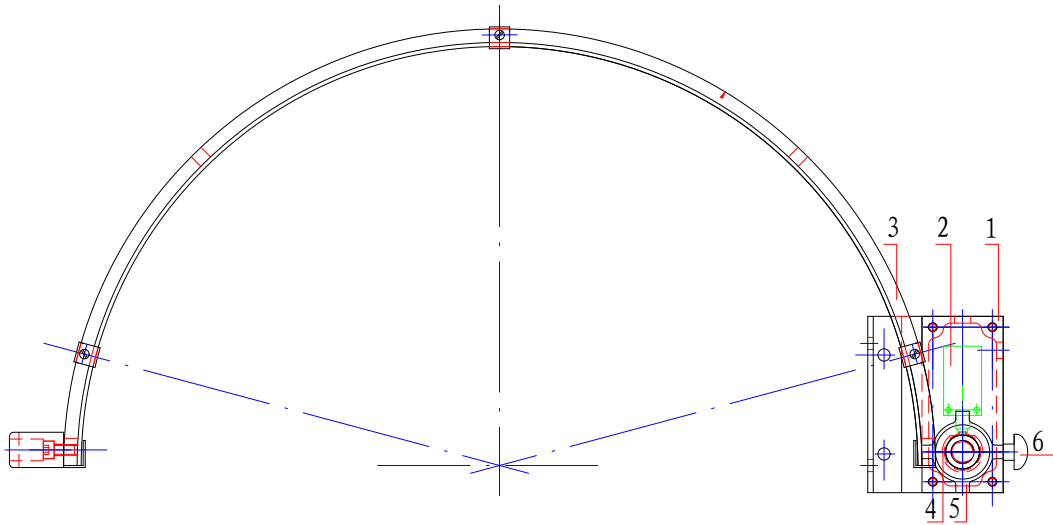

Fig. 26 Protection cover of chuck
The protecting cover seat is provided with limit position screw. After screw up the end and insert it into the limit position slot of the hollow shaft, at the same time, the chuck cover can move in the position fell down and the lifted up the position of lightly more than  $90^{\circ}$ . The horizontal position of the chuck cover is a working position. When this position is reached, screw it up with the handle (6) to make it to fixed without rotating. The positions of two ends of lifting up and lying down of the chuck cover are by their own weight balanced (see Fig. 26).
- The headstock and the feed box adopt the external centralized pressure lubricating system. The oil tank (lubricating point (2) in Fig. 26) in the bed leg and that in the apron (lubricating point (4) in Fig. 26) should be renewed once every 50-60 days for the shops with two-shifts but for the first and the second changing oil time, it takes place for 10-20 days, thereafter, in order to discharge the dirt remained during trial running. After draining the used oil the oil troughs and wicks should be thoroughly washed with clean kerosene. Filter the oil before refilling. The oil level should not be less than the central line of the leveler.